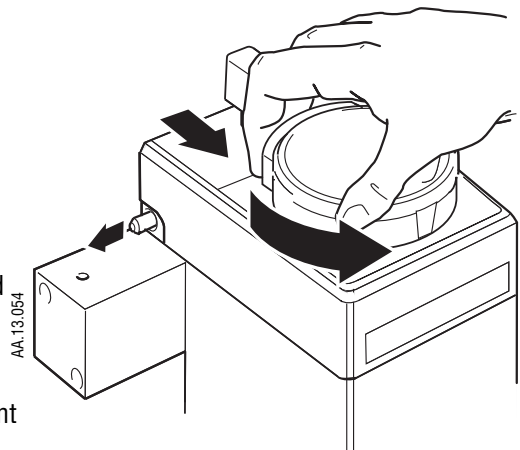

Fig. 4 Turning ON The Vaporizer
1. Pull in the dial release illustrated on Fig. 4 and rotate the dial counter-clockwise. Note that it is not possible to turn ON the vaporizer if an adjacent Tec 4, Tec 5 or Tec 6 vaporizer is turned ON.